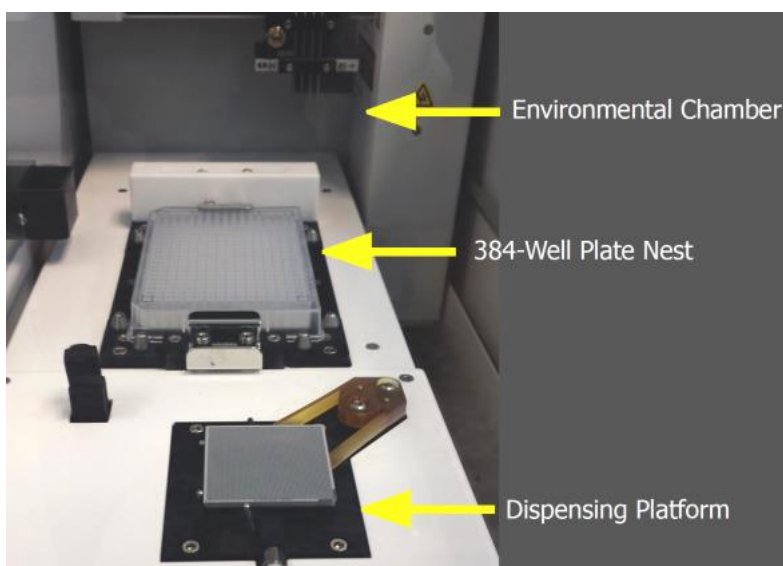

Figure 6. ICELL8 MSND Stage Module.
- All dispensing steps in the MSND Stage Module should be performed with the 384-well source plate oriented with the A1 well positioned at the top-right corner of the 384-well Plate Nest, and the chip oriented with the chamfered (notched) corner positioned towards the lower-right corner of the Dispensing Platform (Figures 6–8, below).